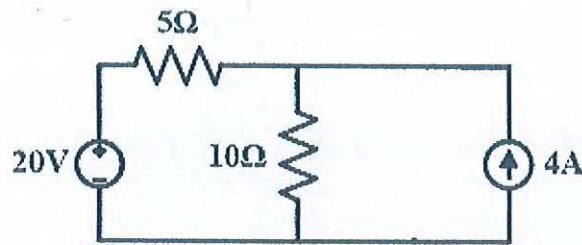

Figure 5
- b. Compute the voltage across 10Ω resistor of the circuit shown in Figure 5 using Superposition theorem. [11]